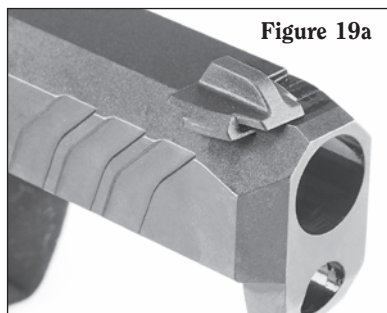

Figure 19a
2. Place the front sight into its dovetail in the slide and by hand push it inward until the bottom of the tension pin stops against the slide (see Figure 19a).